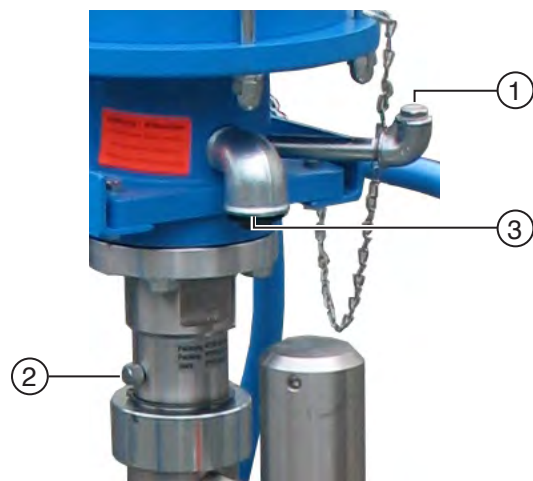

Fig. 45: Filling (1) and draining (2) release agent for PROFESSIONAL and HERKULES
Before each start-up check the release agent level as far as possible. Top up release agent if required (see item 1 on Fig. 45 ff.).